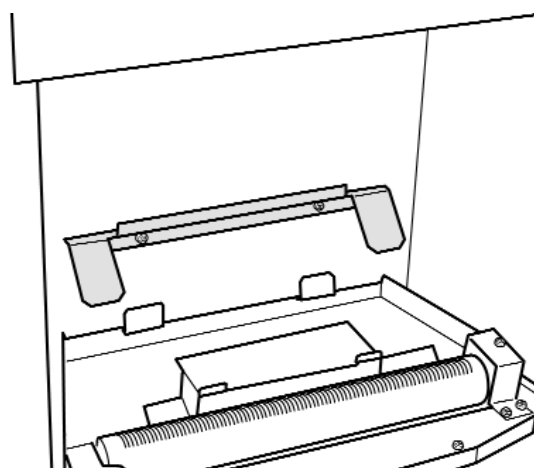

Figure 15. Fitting the rear ceramic support.
7. This appliance is supplied with a rear ceramic support bracket. Fit this using two screws supplied (See figure 15).